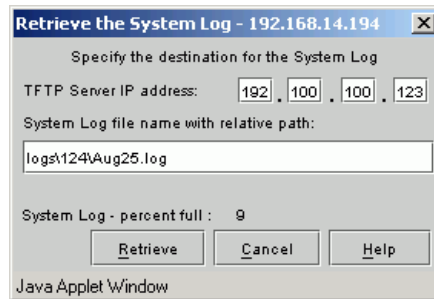

Figure 3-4 Retrieve the System Log Dialog Box
1. Select *File>System Log>Retrieve* to display the *Retrieve System Log* dialog box (Figure 3-4, on page 3-15).